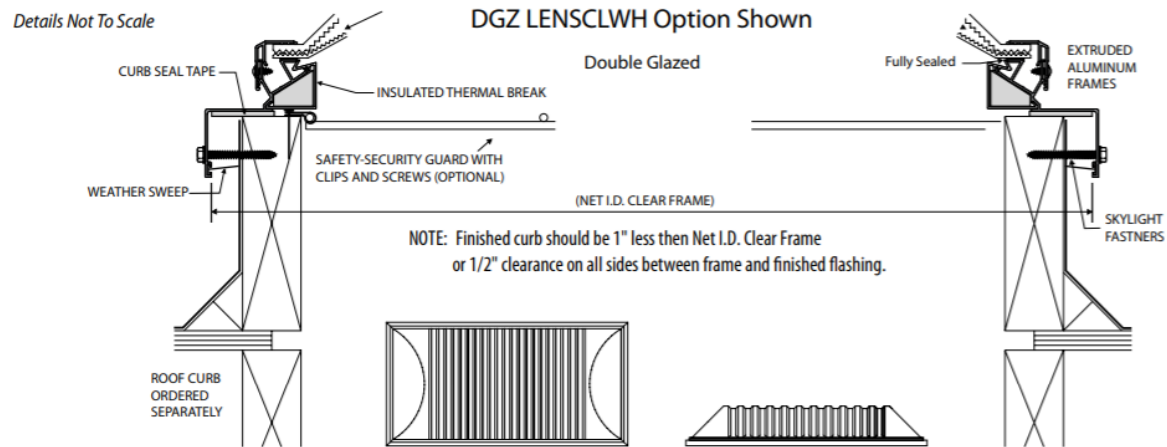

FIGURE 1 – SUNWAVE™ SKYLIGHTS
3.2 The single glazed SunWave™ Skylights utilize prismatic lenses of extruded acrylic or polycarbonate plastic. Glazing materials and their associated thicknesses are as outlined in Table 1. An aluminum curb frame is mounted to a wood curbing, using No. 12 X 1-½ inch long hex washer head screws to form the base of the skylight assembly. Airseal foam neoprene gasket tape is utilized between the horizontal mating surfaces of the wood curb and the aluminum curb frame. The plastic glazing is mounted on top of the curb frame using GE SCS1000 Silicone or Manus-Bond 75-AM sealant. An aluminum thermal break frame is assembled over the glazing and engages the lower aluminum curb frame in a “snap-on” arrangement. No. 8 x ½ inch wafer modified truss head screws are installed to secure the aluminum pieces. Additional details of the skylight assemblies are shown in Figure 1. Further details of materials utilized in the assembly are as follows: